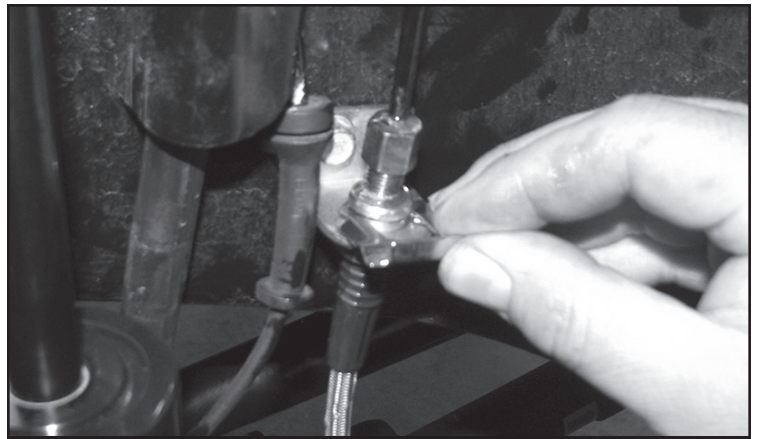

FIGURE 27 - STEP 27
27. Insert the new brake line fitting through the bracket and install onto the factory brake hardline. Next, install the supplied u-clip to secure the line to the bracket. **SEE FIGURE 27**